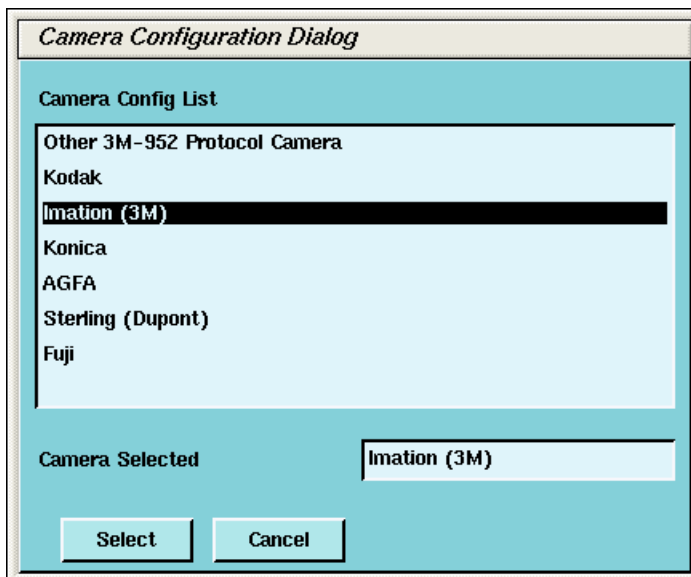

Figure 4-11 Camera Model Dialog (with DASM)
- 5.) To add a new laser camera, click DASM in the camera type dialog box. This brings up a list of available camera models. Select the appropriate model from the list and click SELECT (See Figure 4-11). Now you must configure it.